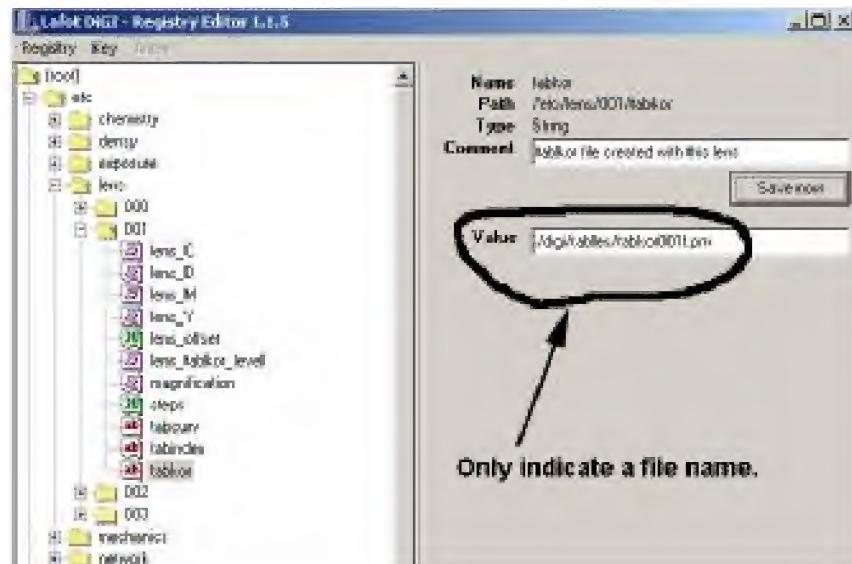

Fig 2.7.14
- The Mask files are saved in **\10.1.1.1\tables** folder, the value of **tabkor** which is under **etc/lens/00x** in the Linux Registry only indicate a file name (Fig 2.7.14).